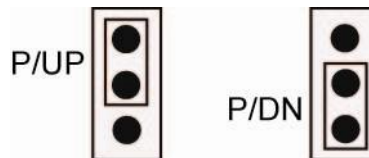

Figure 10. Pull-up/down jumper configuration
- Configure each jumper for pull-up or pull-down, as shown in Figure 10. Use the jumper labeled **DIO A** to configure Port A, and **DIO B** to configure Port B.